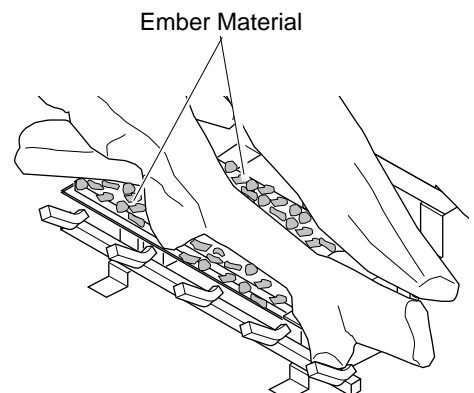

Figure 50 - Placing Ember Material on Burner
5. Pull ember material apart into pieces no larger than a dime. Place these pieces loosely onto the exposed section of the front burner and space between logs 2 and 3 where front burner is exposed (see Figure 50). This will create the glowing appearance as the flame touches the ember material. Do not block ports by using too much ember material in one area. It is not necessary to use all of the ember material provided.